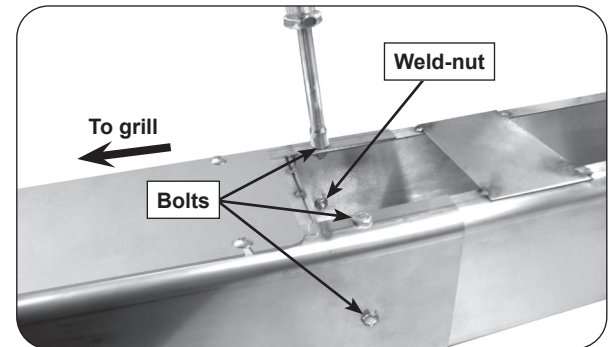

Fig. 11-2 Fasten extension to post
2. From outside the joined post and extension, insert one of the 1/4"-20 X 5/8" bolts (supplied) into each of the five (5) bolt holes and tighten each using a 7/16" socket driver or wrench (see Fig. 11-2).